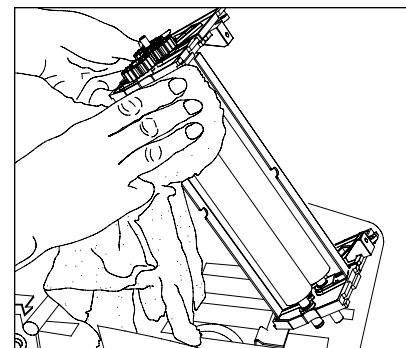

Fig. 19
9. Clean the exposed rollers by spraying Martin Yale Roller Cleaner and Rejuvenator onto a clean cloth and wiping until all contaminants are removed. Turn the rollers with the large pulley to get all the roller surfaces (**Fig. 19**). Alcohol or a mild soap and water solution may also be used. Avoid getting cleaning solutions into the bearing surfaces. If the fold rollers become glazed or shiny, it may be necessary to return them to a dull luster by using a lightly abrasive non-metallic scouring pad. **Never use metal pads such as steel wool or sand paper, as the shavings or grit will damage the roller and bearing surfaces.**